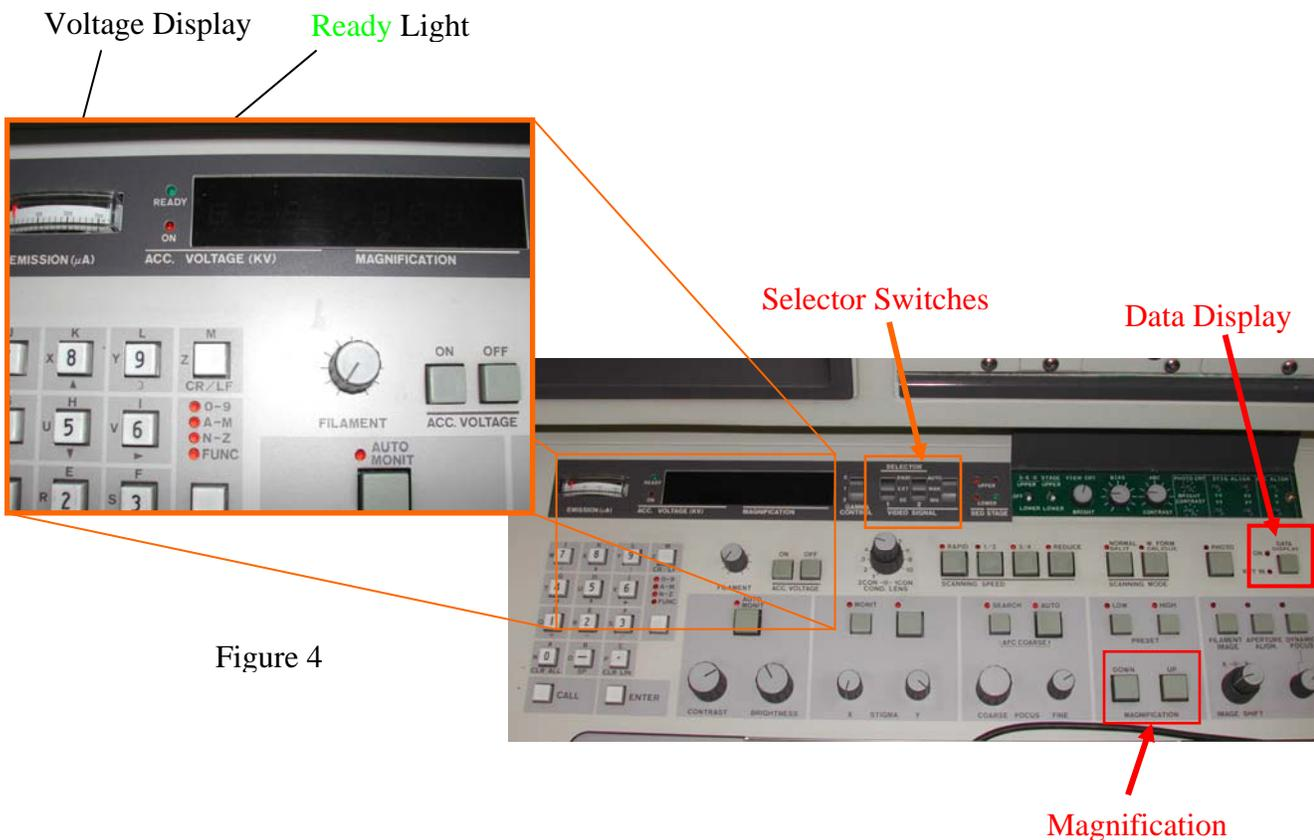

Figure 4
- Make sure both *Selector Switches* on the electronics panel are set to *SE* (Figure 4).